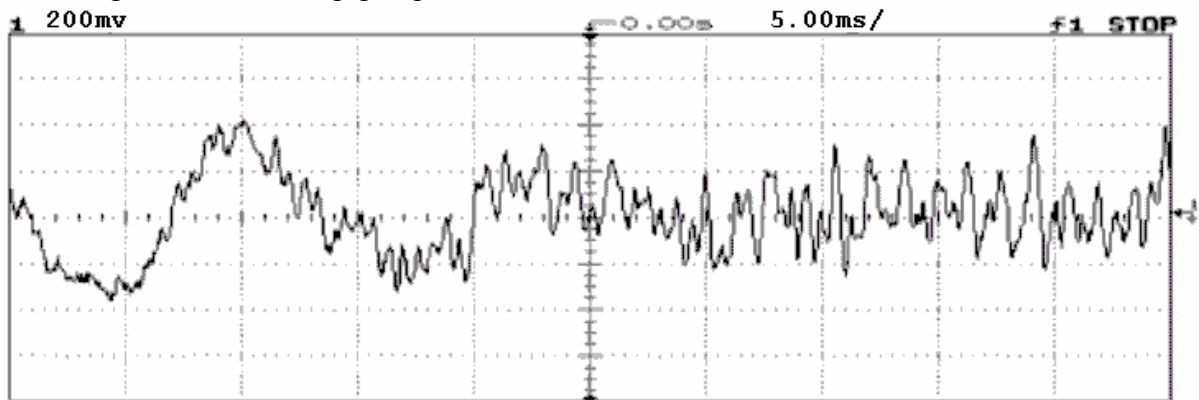

Figure 8
*test input signal:* The transmitter is a 555-timer circuit very similar to an astable multivibrator. The only difference is that instead of generating a regular string of pulses, it generates a string of pulses which vary in frequency in response to the input signal at pin 5. It is best to use a square wave to debug this circuit. A typical audio signal is pictured in figure 8. Note that the signal below has several frequencies. There are about 10 cycles of a typical wave in a 5 ms division. This corresponds to a frequency of about 2K hertz. Also note that the amplitude reaches a maximum of about 800mVp-p. Our circuit works best with a slightly larger amplitude, so set the function generator to 1.2Vp-p, square wave at 1.5kHz.